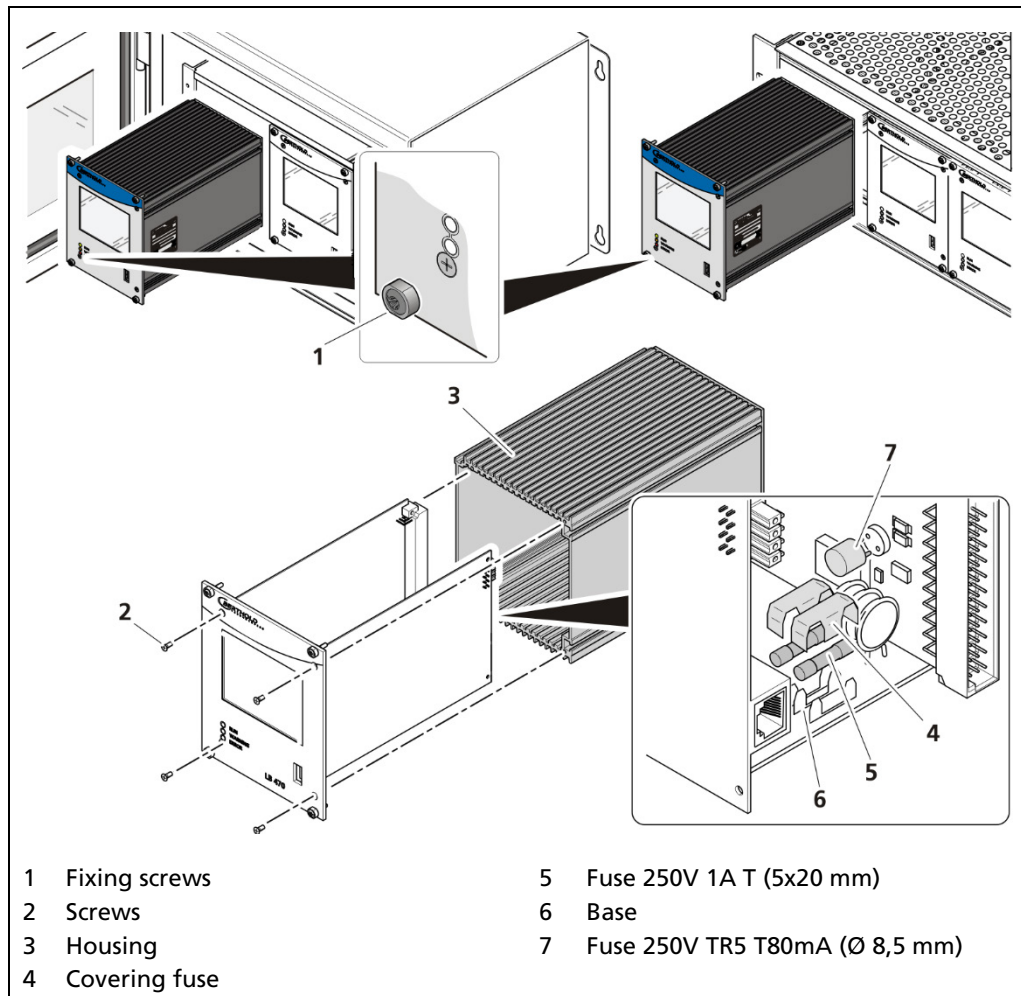

Fig. 145 Replacing fuses master EVU
2. Loosen the four fixing screws (Fig. 145, item 1) and remove the EVU from the wall housing or subrack.
3. Loosen the four sunken screws on the front side of the EVU (Fig. 145, item 2).
4. Pull out the housing (Fig. 145, item 3) carefully.
5. Remove the protective covering of the fuse (Fig. 145, item 4)
6. Remove the fuse (Fig. 145, item 5, item 7).
9. Screw the front panel to the housing with the four screws (Fig. 145, item 2).
11. Tighten all fixing screws (Fig. 145, item 1).